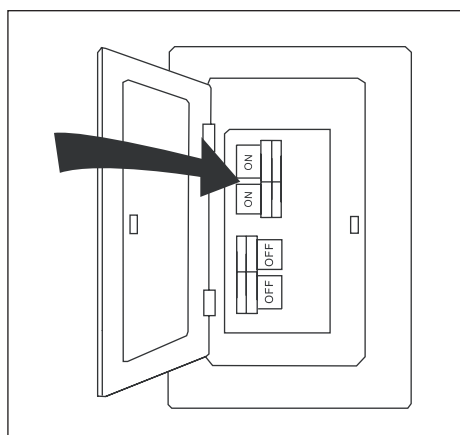

Figure 2.16
16. Turn on power to fan at breaker box and the wall switch (Figure 2.16). Assembly is complete.